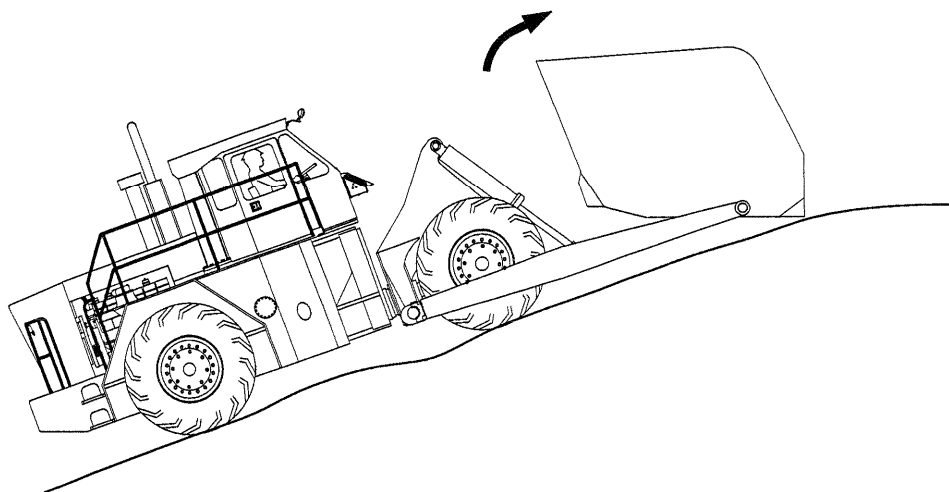

Fig. 4-5
1. When cutting on a knoll or up a steep grade, tilt the bucket slightly. This allows the bucket to load more freely. See Fig. 4-5.